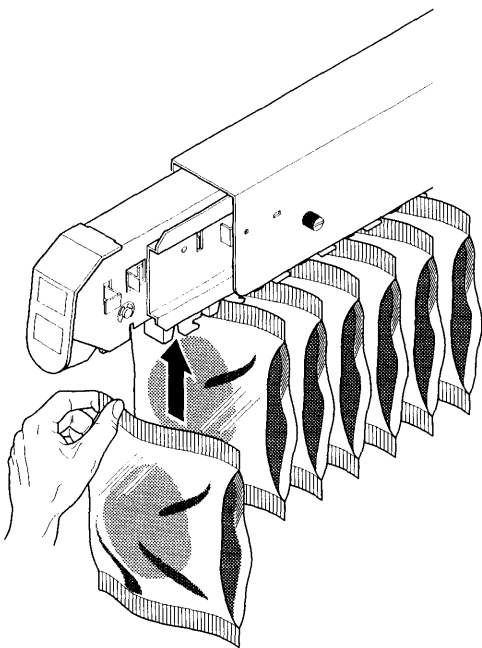

Figure 3
2. Insert a bag into each wedge as shown (figure 3). The best way to do this is to insert the bag at an angle, then slide it up until it is centered in the wedge. A total of 13 items may be loaded.